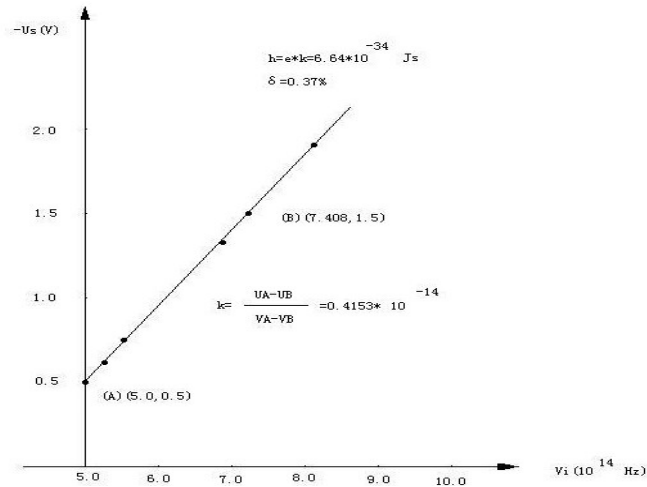

Figure 8 Plot of cutoff voltage vs light frequency
Plot U_s versus light frequency graph using the data recorded in Table 3 as shown in Figure 8. If the photoelectric effect complies with Einstein's equations, the $U_s \sim$ Frequency curve should be a straight line. Conduct curve-fitting using Excel and find the slope of the line: $k = \Delta U_s / \Delta \nu$, and substitute it in equation (5) to calculate the Planck's constant. Compare the result with the recognized Planck's constant value.